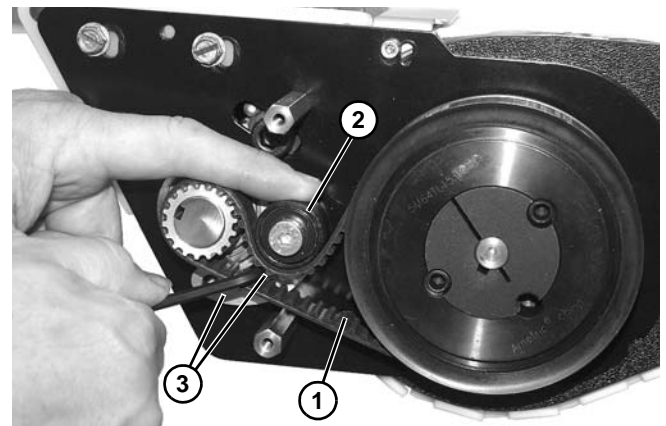

Figure 147
- On drive end, route and install belt (**Figure 147, item 1**) as shown. Press down on tensioner (**Figure 147, item 2**) and tighten two socket head screws (**Figure 147, item 3**).